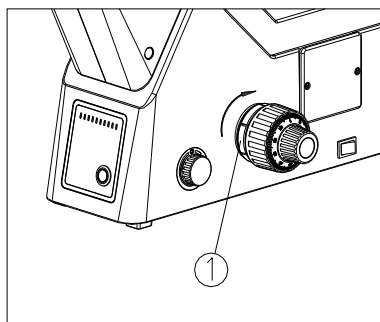

Fig. 15
If the handle is very heavy when coarse focusing, or the specimen leaves the focus plane soon after focusing, or the stage declines itself, these problems can be solved by adjusting the tension adjustment ring (1). (See Fig.15)